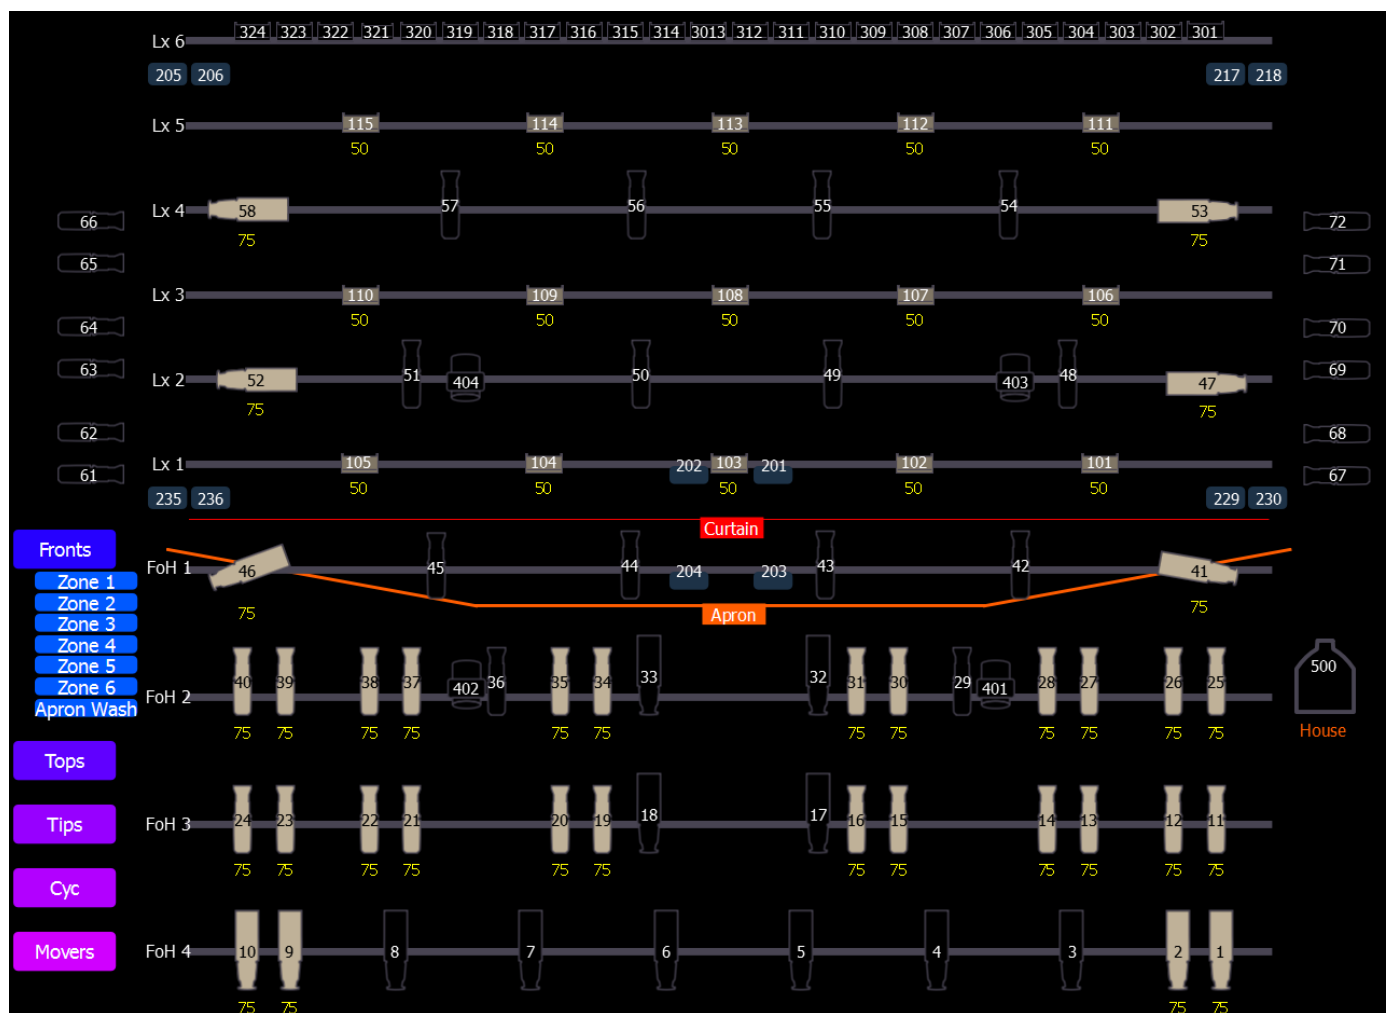

Figure 6 – Standard house lighting plot
- The standard house lighting plot with on-stage side lighting (channels 61 through 72) is shown in **Figure 6**.
- Fixtures above the house (**rows FOH 1 through FOH 4 in Figure 6**) are all accessible from catwalk system (**Figure 7**) for aim, zoom and focus.
- This wash is accomplished using the fixtures displaying 50 and 75 intensity in **Figure 6**.
- Shown in **Figure 6** as Channels 201, 202, 203, 204, 205, 206, 217, 218, 229, 230, 235 and 236